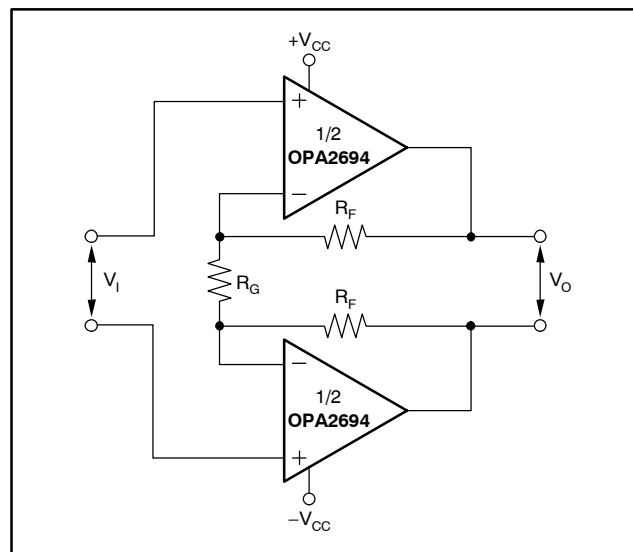

Figure 6. Noninverting Differential I/O Amplifier
Dual op amps are particularly suitable to differential input to differential output applications. Typically, these fall into either ADC input interface or line driver applications. Two basic approaches to differential I/O are noninverting or inverting configurations. Since the output is differential, the signal polarity is somewhat meaningless—the noninverting and inverting terminology applies here to where the input is brought into the OPA2694. Each has its advantages and disadvantages. Figure 6 shows a basic starting point for noninverting differential I/O applications.
This approach provides for a source termination impedance that is independent of the signal gain. For instance, simple differential filters may be included in the signal path right up to the noninverting inputs without interacting with the gain setting. The differential signal gain for the circuit of Figure 6 is shown in Equation (1):
Various combinations of single-supply or AC-coupled gain can also be delivered using the basic circuit of Figure 6. Common-mode bias voltages on the two noninverting inputs pass on to the output with a gain of 1, since an equal DC voltage at each inverting node creates no current through R_G . This circuit does show a common-mode gain of 1 from input to output. The source connection should either remove this common-mode signal if undesired (using an input transformer can provide this function), or the common-mode voltage at the inputs can be used to set the output common-mode bias. If the low common-mode rejection of this circuit is a problem, the output interface may also be used to reject that common-mode. For instance, most modern differential input ADCs reject